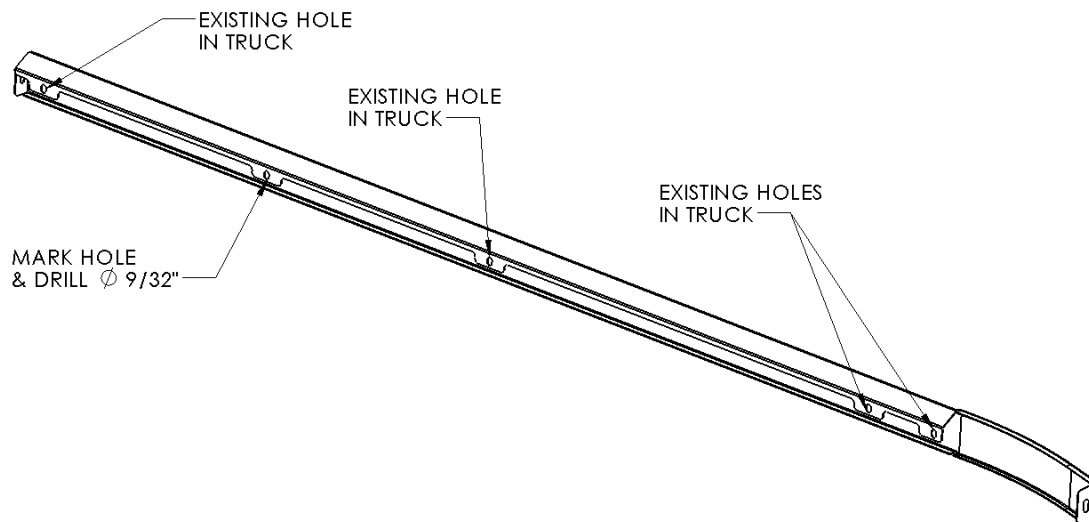

FIGURE 3 – DRIVER SLEEPER PANEL, SHOWN FROM BACK
7. Temporarily fasten the sleeper skirt through four existing holes in truck (See Figure 3). Ensure the top of the skirt is snug up against the truck to minimize the gap.